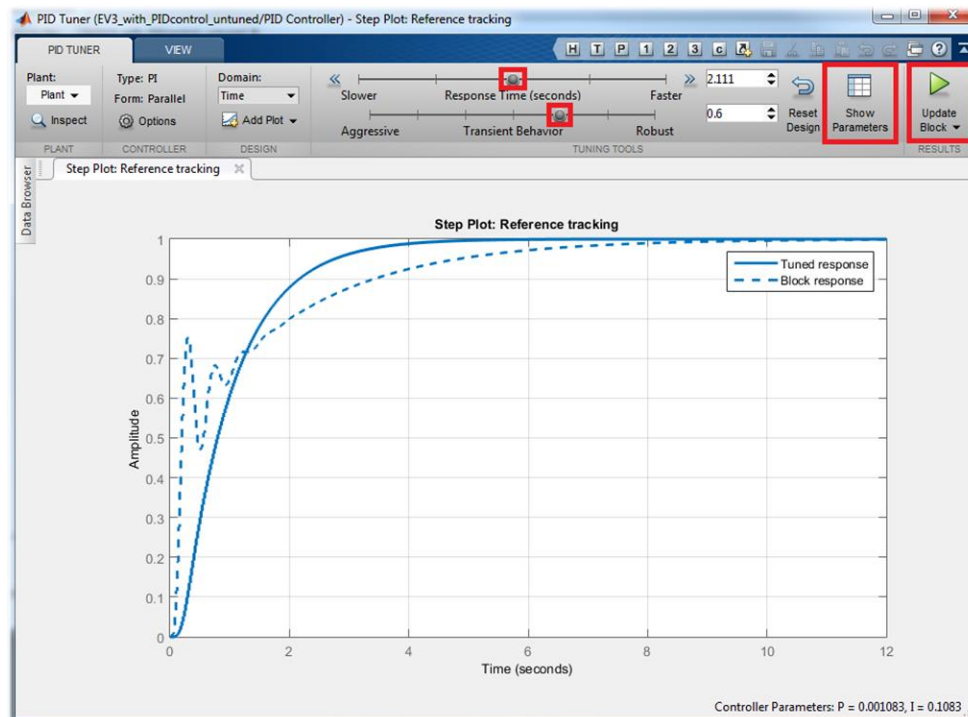

Figure 44 – PID Tuner interface
When the “Tune” button is selected, it brings up the PID Tuner interface (Figure 44) and the following actions occur:
7. Select the 'Show Parameters' button on top-right of the PID Tuner (Figure 44) to observe how the tuned controller parameters and response characteristics (like rise time, overshoot etc.) compare against the original block parameters. (Figure 45)
8. Select the "Update Block" button on the top-right of the PID Tuner interface (see Figure 44) to update the PID Controller block with the tuned controller gains.